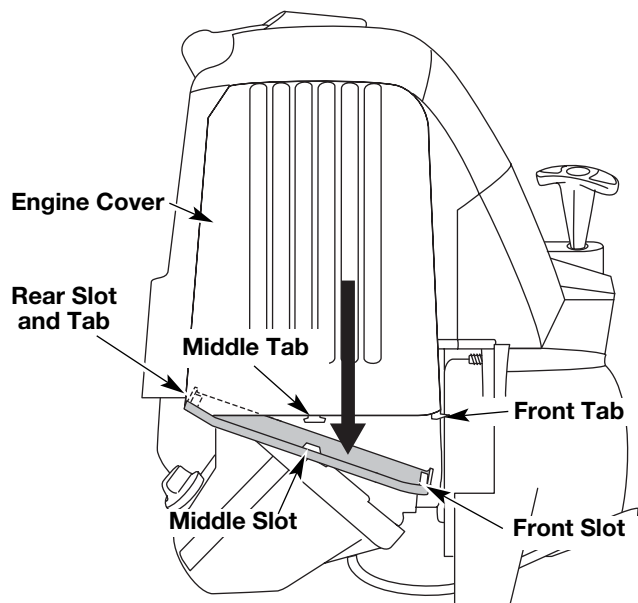

Fig. 34
1. Remove the muffler cover by pressing down on it, separating it from the engine cover. Using a flat blade screwdriver, disengage the middle and front tabs and slots first. The cover will hinge off from the rear tab (Fig. 34).
- 13. Reinstall the muffler cover. Slip the rear tab on the muffler cover into the engine cover rear slot. Then slide the remaining slots into the tabs until they snap into place (Fig. 34).